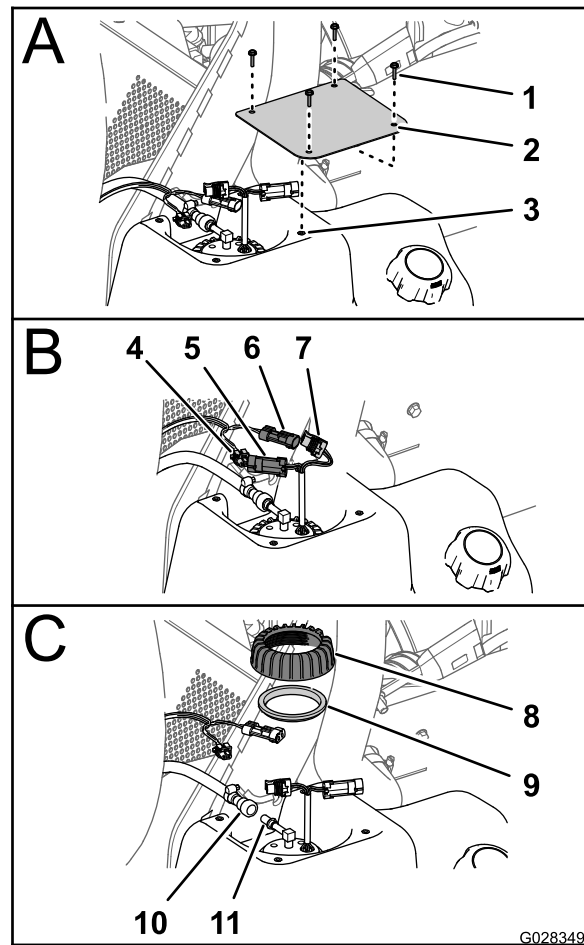

Figure 61
2. At the fuel tank, remove the 4 screws (#10 x 3/4 inch) that secure the cover to the top of the fuel tank, and remove the cover (Figure 61).
3. Disconnect the 2-socket connector of the machine-wiring harness from the 2-pin connector of the fuel pump/sending unit; disconnect the 2-pin connector of the machine-wiring harness from the 2-socket connector of the fuel pump/sending unit (Figure 61).
4. Slide the locking sleeve of the fuel-hose coupling away from the fitting of the fuel pump/sending unit and remove the coupling and hose from the fitting (Figure 61).
5. Rotate the nut for the fuel pump/sending unit counterclockwise and remove the nut and seal (Figure 61)